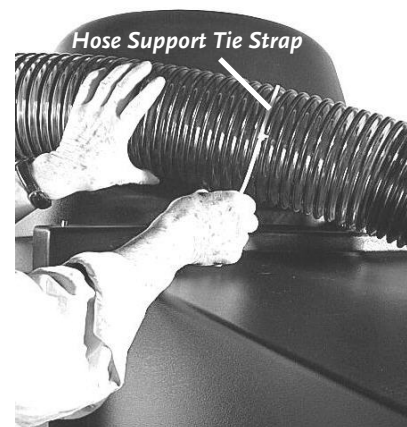

Figure 32
2. Tilt the trailer bed back for ease of access and cut the Hose Support Tie Strap (**Figure 32**).
8. Replace the Hose Support Tie Strap with the new one supplied with the replacement hose (**Figure 32**).